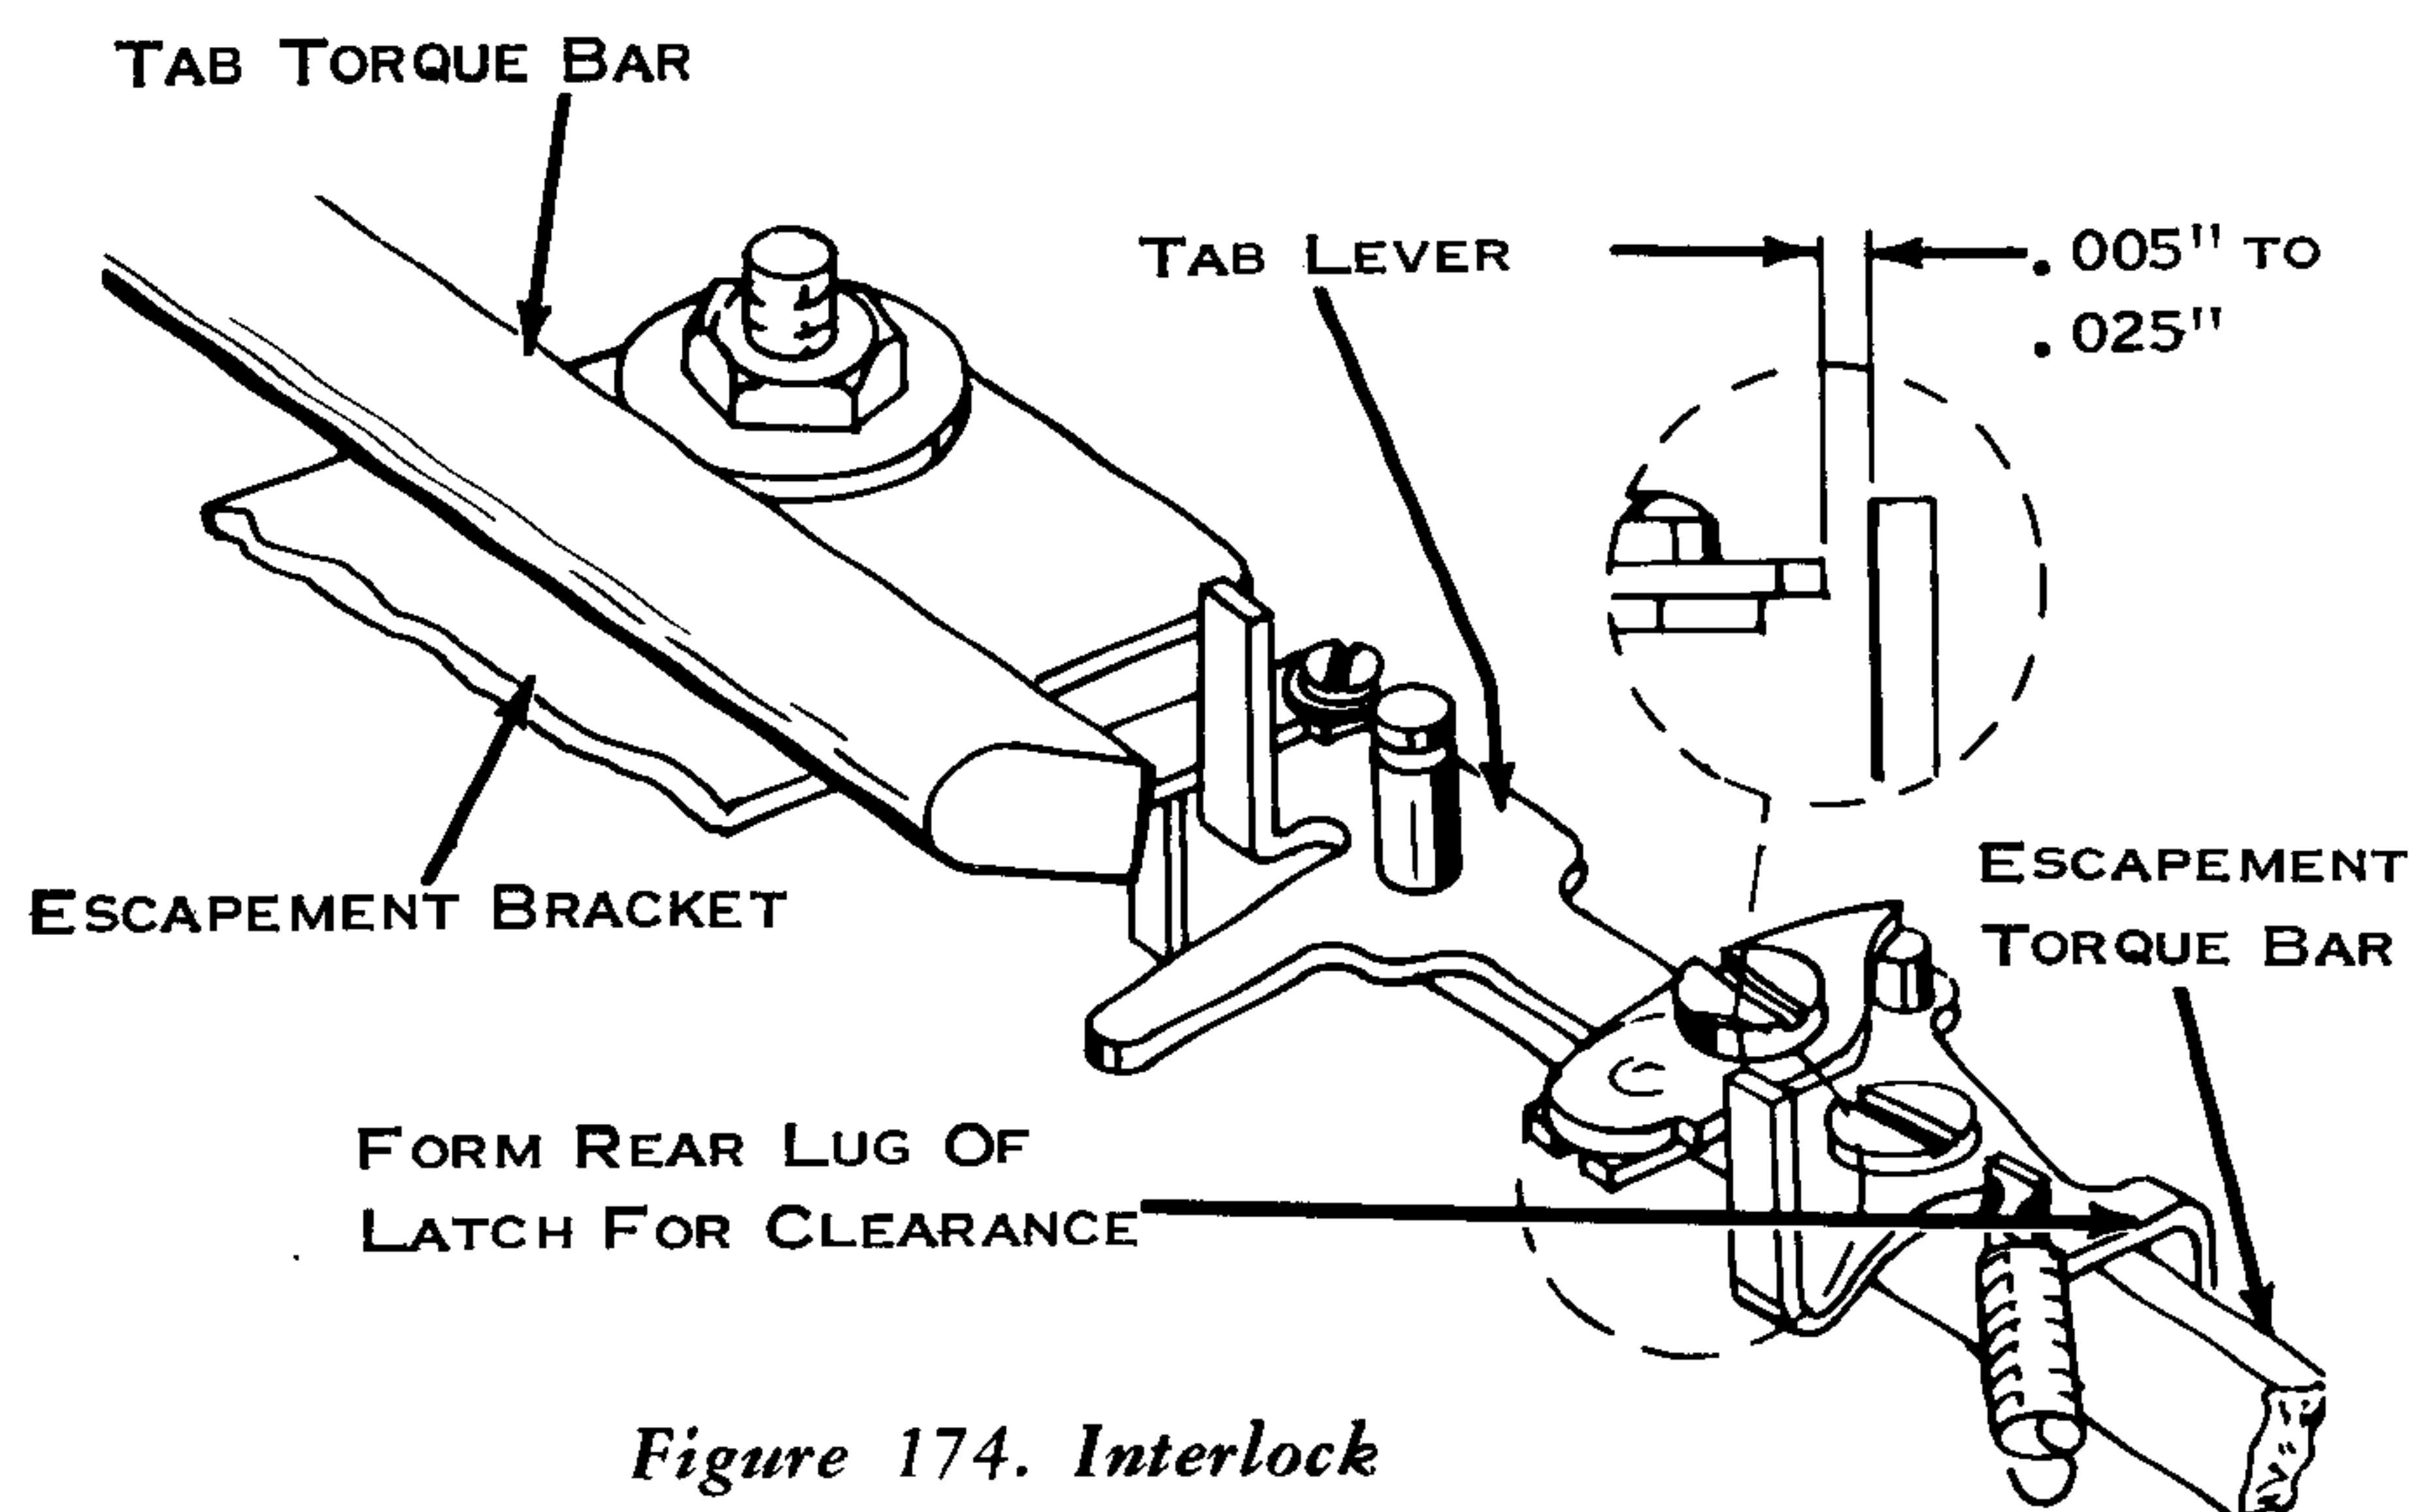

Figure 174. Interlock
11. Carrier Return/Tab Interlock (Fig. 174) - With the carrier return clutch latched, the upright lug of the tab latch should clear the end of the tab lever pawl by .005" to .025". The rear lug of the tab latch should be formed forward or back to obtain this condition.